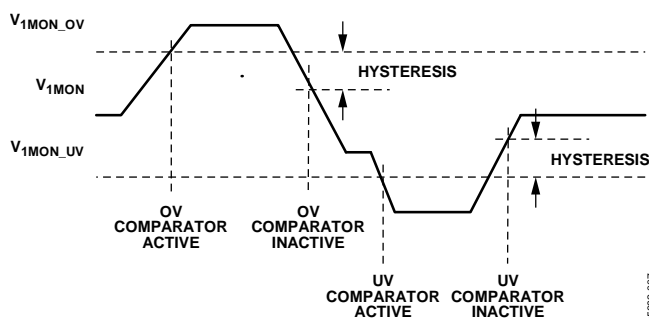

Figure 6.  $V_{1MON}$  Hysteresis
When the  $V_{1MON}$  input goes above the programmed overvoltage (OV) threshold, the comparator becomes active immediately, indicating that an OV condition has occurred. Due to hysteresis, the  $V_{1MON}$  input must be brought below the programmed OV threshold by 1.5% before the comparator becomes inactive, indicating that the OV condition has gone away (see Figure 6).